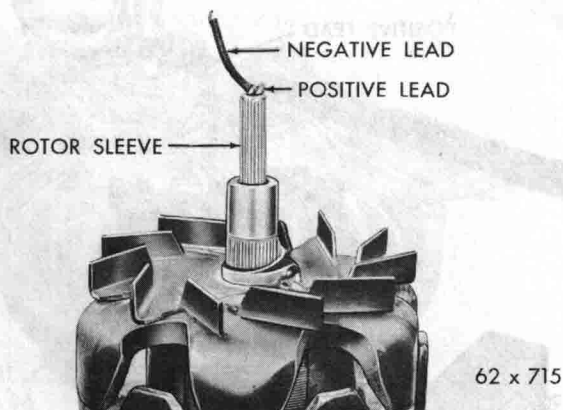

Fig. 50—Rotor—Slip Rings Removed
(4) Remove the old slip rings and clean away dirt and particles of the old slip ring from the rotor (Fig. 50).
(5) Scrape the ends of the rotor coil lead wires